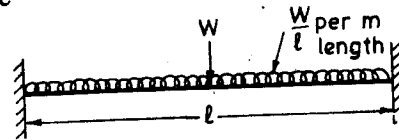

Fig. 47
93. The maximum deflection in case of loading for Fig. 47 will be